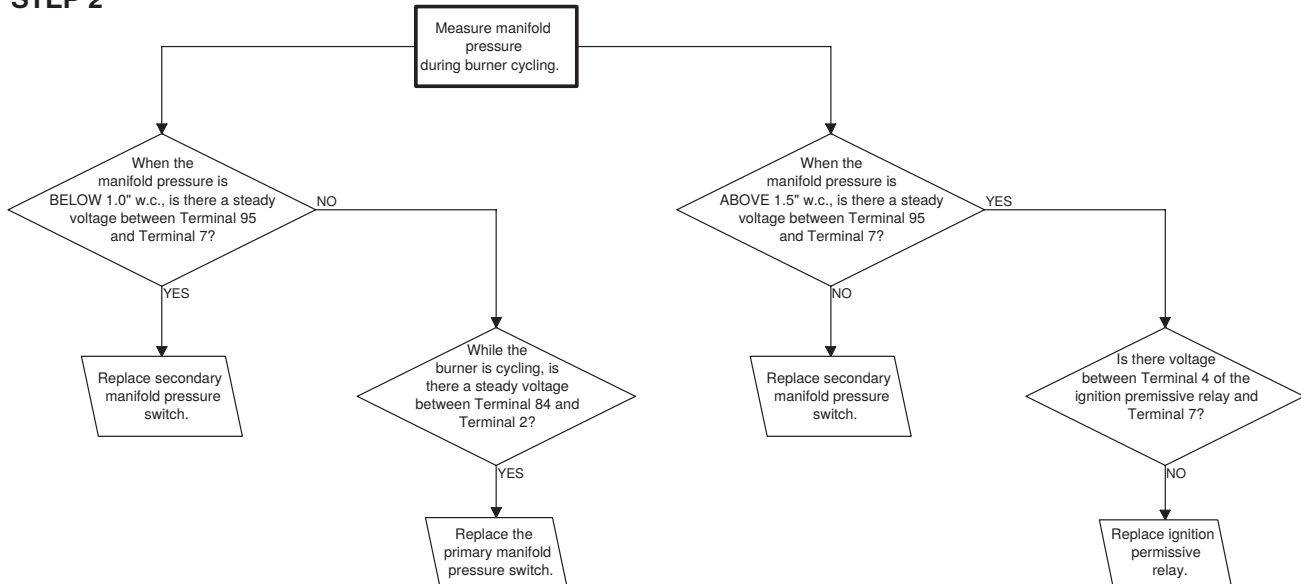

Figure 35. Troubleshooting Guide for Checking Bypass Combustion Air Damper Safety Circuit on Units with Option AG39 or AG40
1. Main burners are inoperative—24V is available between terminals 2 and 7 (see step 1, Figure 35).
2. Steady call for heat (burner cycles)—24V is available between terminals 11 and 7 and terminals 2 and 7 (see step 1, Figure 35).